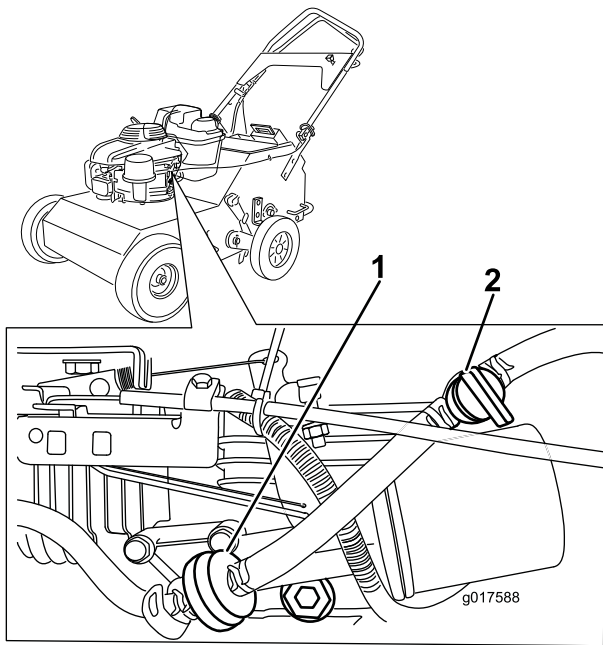

Figure 9
2. Open the fuel valve by turn it in-line with the fuel hose (Figure 9).
3. Move the throttle control all the way forward to the Choke position (Figure 9).